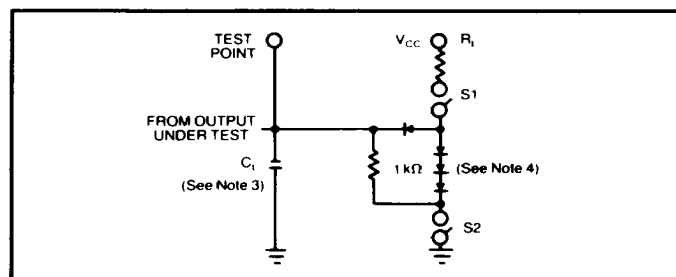

FIGURE 10
- Standard TTL load circuit used, see Figure 10 (S1 & S2 closed)